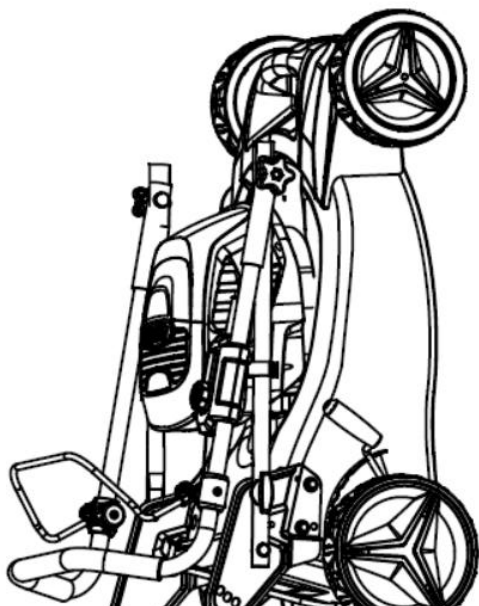

Fig.15B DO NOT STORE UPRIGHT
- 4. Store the mower flat. (Fig.15B).